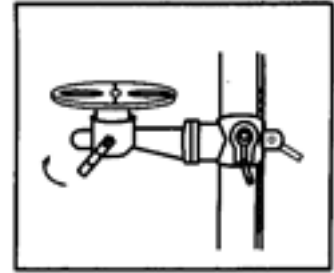

Figure 2
4. Secure table to arm by tightening clamp bolt. (Fig. 2)